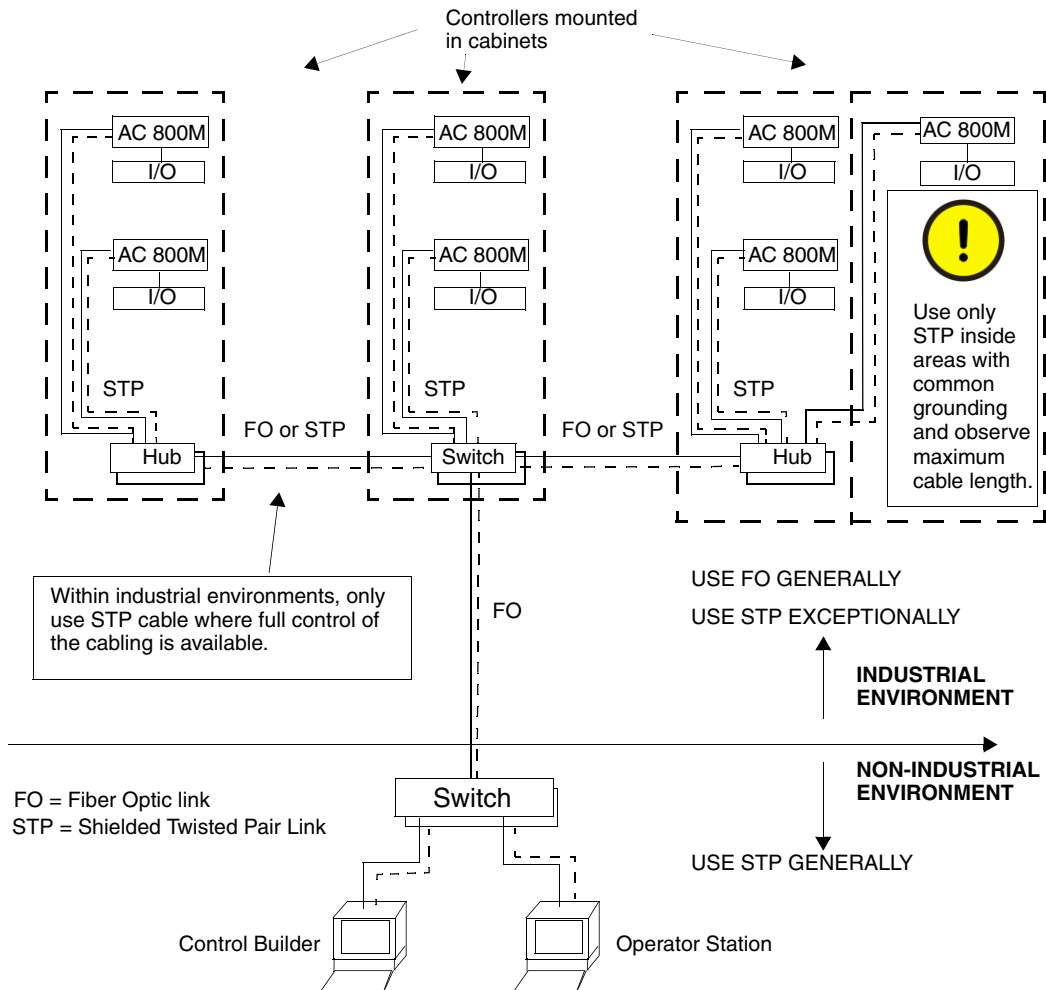

Figure 58. Example of AC 800M Controllers Connected to a Control Network
The Control Builder is installed in a PC that is normally connected to the AC 800M Controller via the Control Network and the CN1 or CN2 ports on the controller (see Figure 58 on page 161).
The AC 800M controller is always connected to the Control Network via an STP (Shielded Twisted Pair) cable. Should the local environment be of an industrial nature, the AC 800M / Control Network connection must be converted over to a Fiber Optic (FO) cable. This is achieved by installing an Ethernet Switch having both optical and electrical ports. See Figure 58 on page 161.